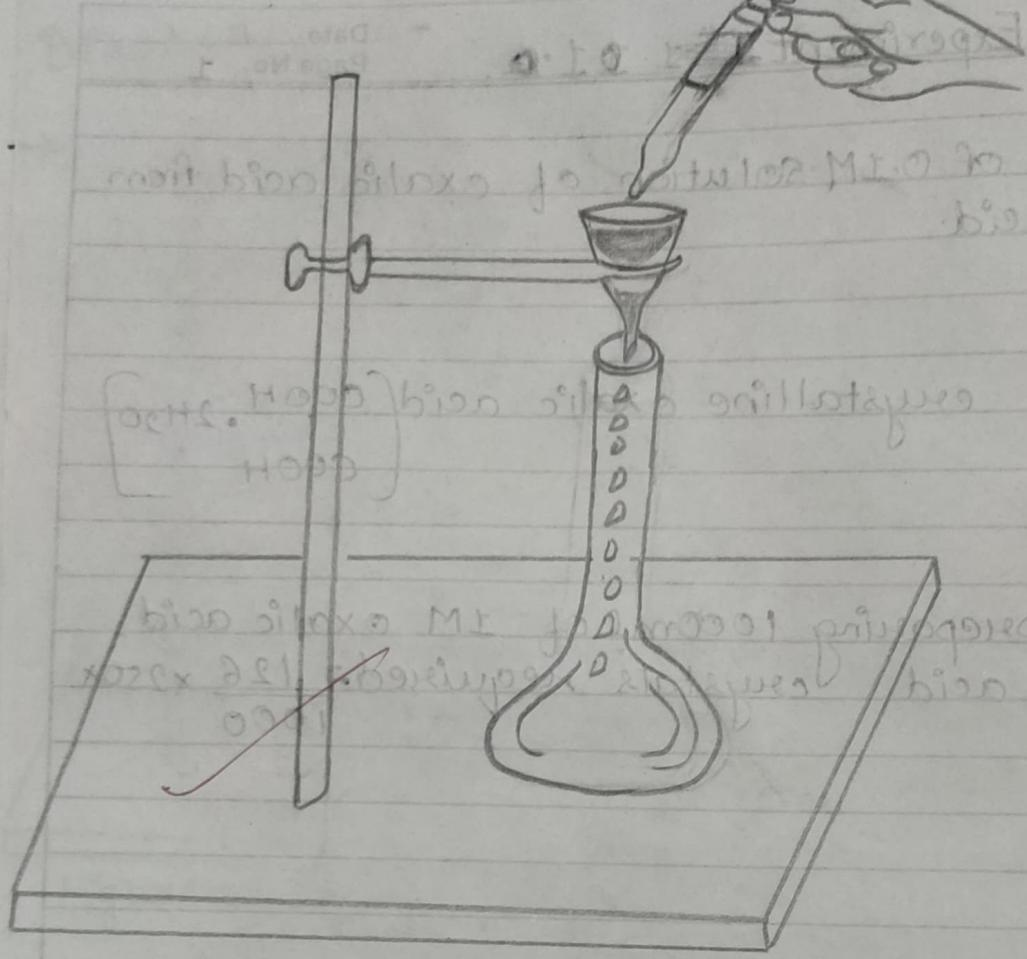

Figure 11.16 Adding last small amount of water dropwise.
- 8) Add the last few drops of distilled water with a pipette or a dropper until the lower level of the meniscus just touches the mark on the measuring flask [fig. 11.16].